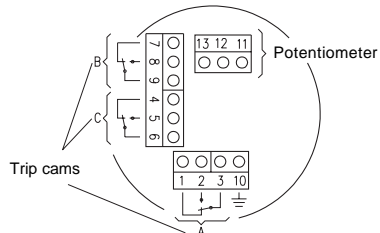

Fig. 5 : Pin connection GP43/44
- Connect strands to the clip terminals (fig. 5 and 6).